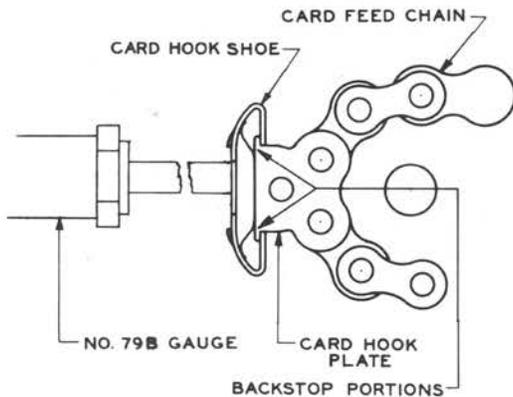

Fig. 41—Card Hook Shoe Pressure
**2.50 Card Hook Shoe Pressure:** The pressure of the card hook shoe (Fig. 41) when depressed to the card hook plate shall be
- (6) Apply the gauge (push finger removed) to the card hook shoe between the card pickup edges at a point slightly *above center* as shown in Fig. 41 when checking from the perforator rear (in-bin side).
- (7) When checking from the front of the perforator (out-bin side), apply the gauge to the card hook shoe between the card pickup edges at a point slightly *below center*.
- (8) Press inward with the gauge until the portion of the card hook shoe receiving the gauge pressure touches the card hook plate.
- (9) Remove the gauge slowly, and observe the gauge reading as the card hook shoe just leaves the card hook plate. Make sure the shoe is parallel to the plate.